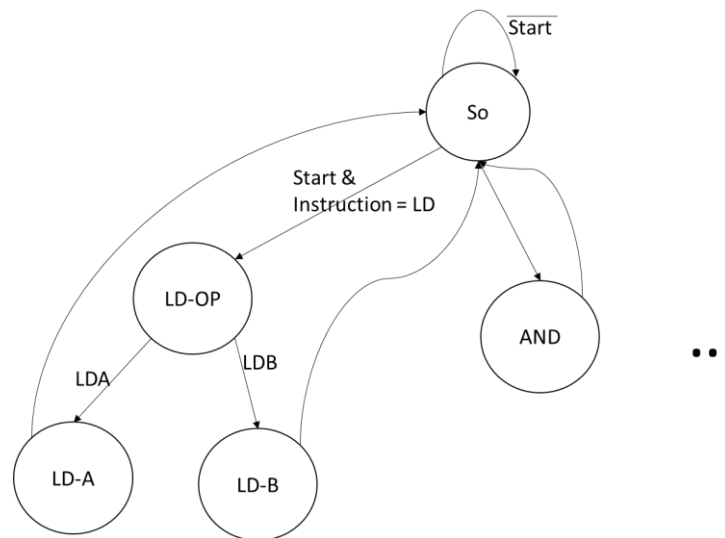

Figure 5 – Template Moore Automaton
2. Design your controller as a Moore Automaton (use the template of Figure 5). Assume that your controller's initial state is expecting an instruction from a user and possibly a start signal. Upon receiving the start signal, the controller will then branch in different directions based on the INSTR field of the instruction. **(15 pts)**